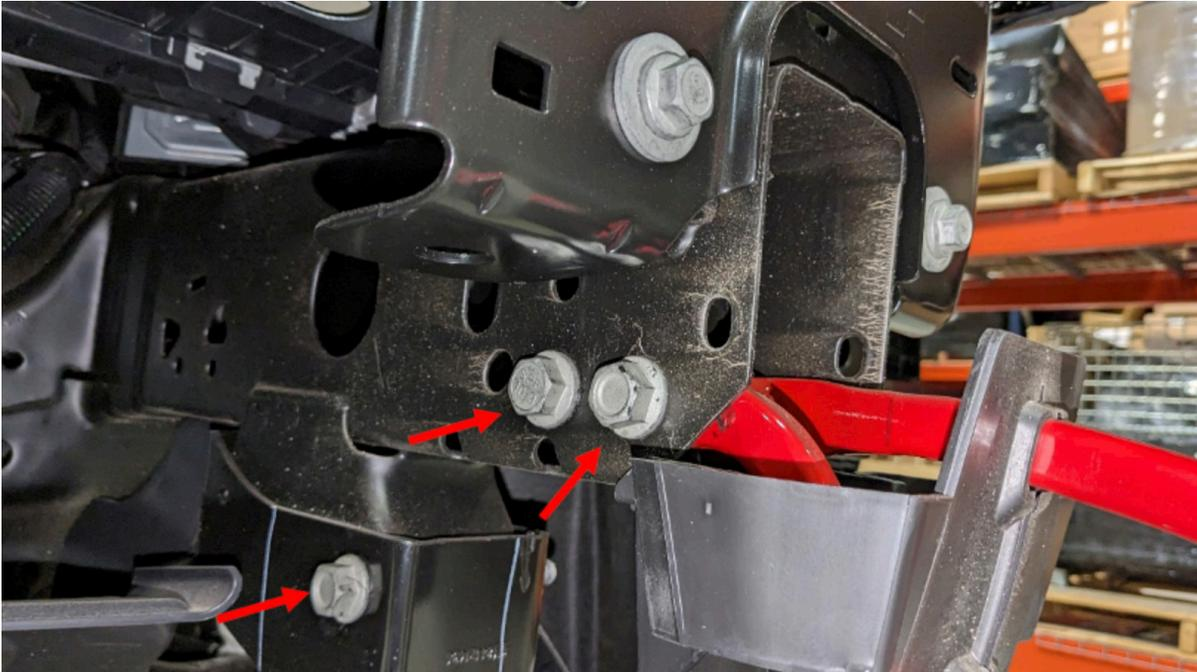

Figure 17
18. Using an 18mm socket wrench and combination wrench, remove the two (2) bolts per side holding the tow hooks to the frame, as well as bolts from lower plate on frame. Figure 17